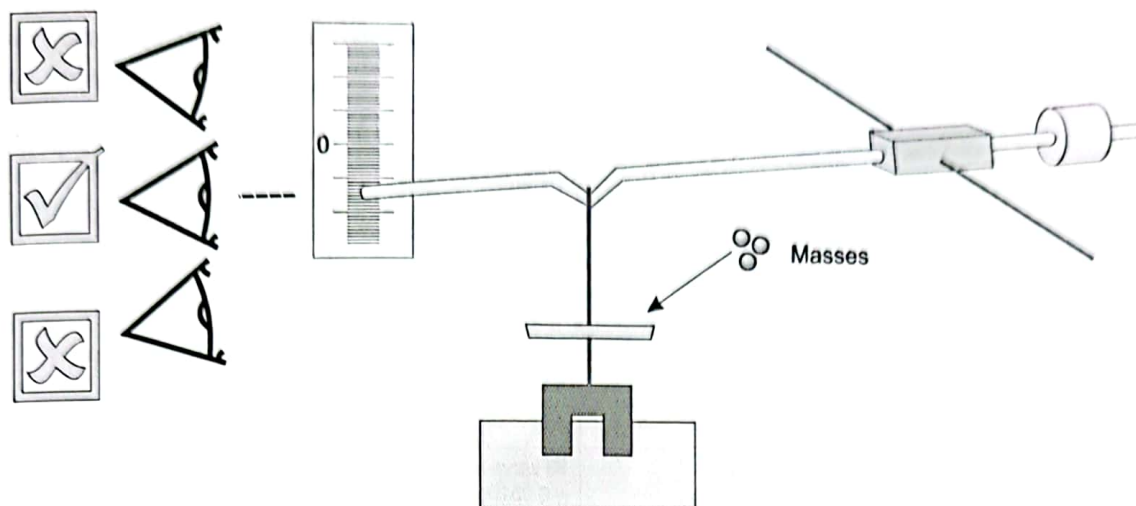

Figure 11 Add Masses to the Pan
- 11) As shown in Figure 11, slowly add masses ( $m$ ) to the pan until the balance arm pointer indicates the 'critical reading' you found earlier.